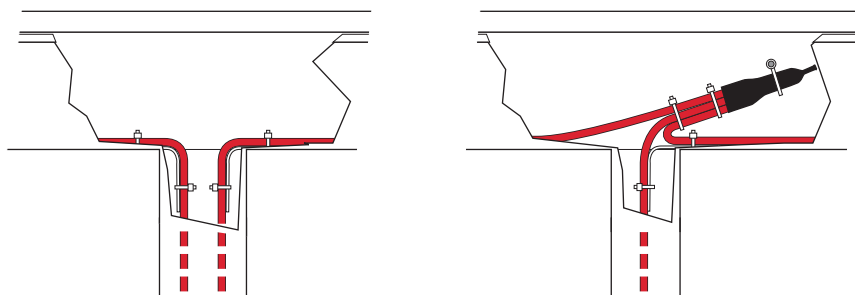
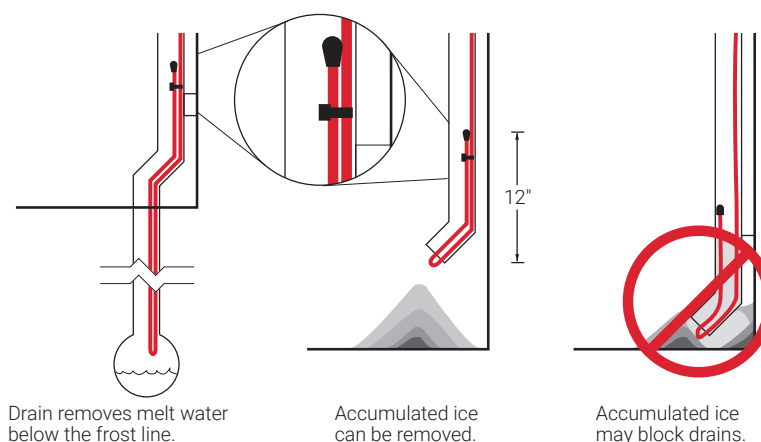

Figure 10 Heating cable at top of downspout
Figure 11 Heating cable at bottom of downspout
- External downspouts and scuppers must be treated carefully. A path must be provided for the valley/perimeter heating cable to the point of discharge (see Figure 11 on page 10).
Ice may form in downspouts and prevent melt water from escaping from the roof. To maintain a continuous path for melt water to run off, run the heating cable inside the downspout to the end as shown in Figure 10 and Figure 11 below. Follow the appropriate attachment recommendations in Step 2. Additional heating cable may be needed for the roof surface, gutters, and valleys.